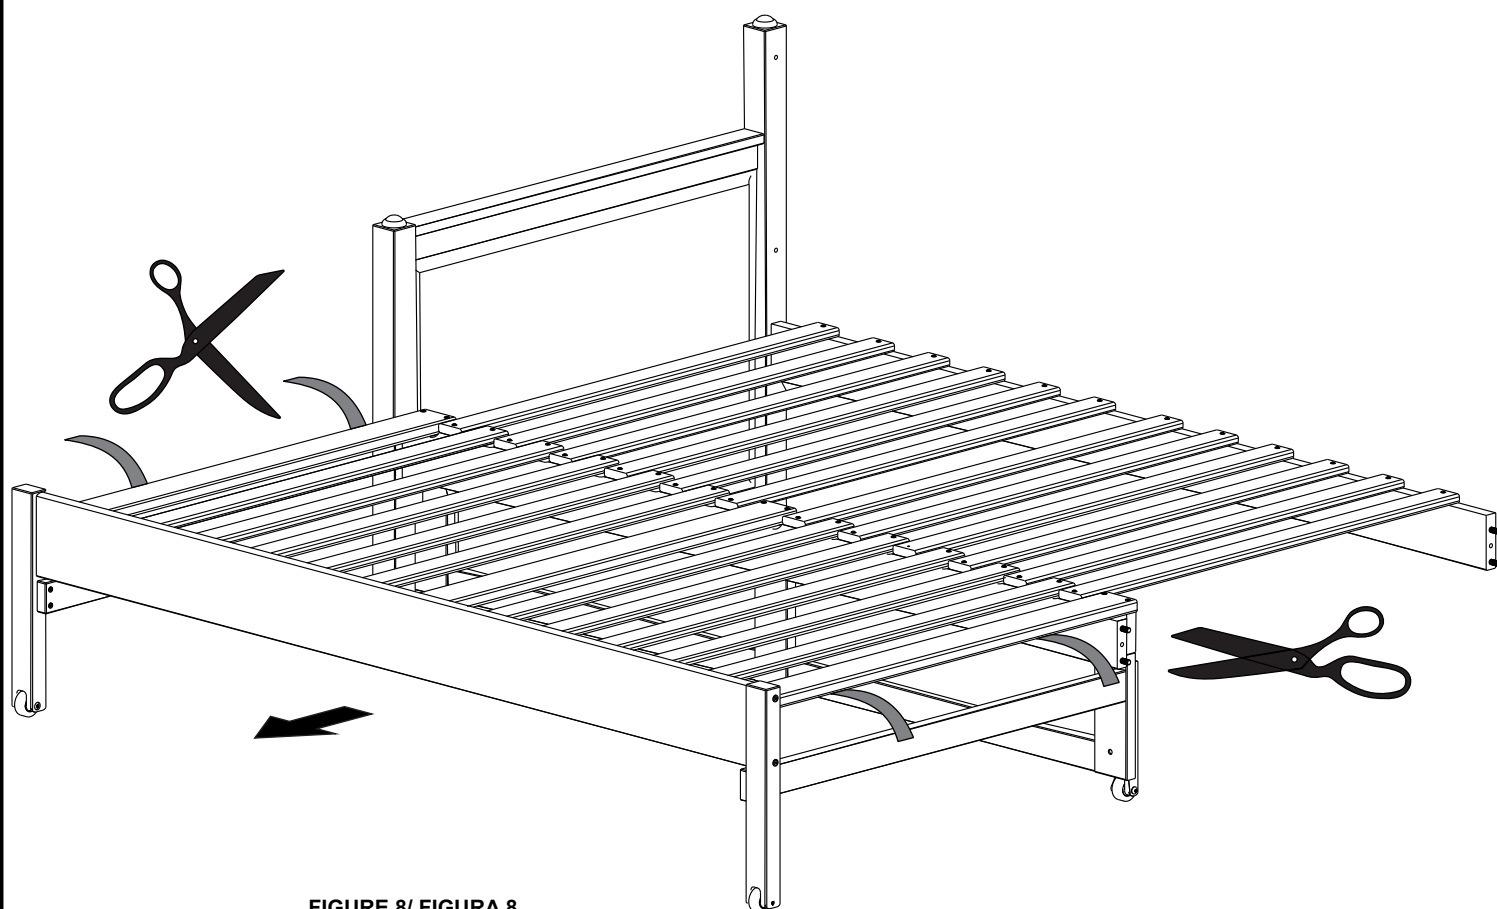

FIGURE 8/ FIGURA 8
8.1 - PROCEED BY CUTTING THE NYLON STRIPS TIED TO SLATS ON THE EXTENSIBLE BASE (A). USE A KNIFE OR A SCISOR WITH CAUTION AS SHOWN ON FIGURE 8.
8.1 - PROCÉDER EN COUPANT LES BANDES DE NYLON LIÉES AUX LAMELLES SUR LA BASE EXTENSIBLE (A). UTILISEZ UN COUTEAU OU UN CISEAU AVEC LA MISE EN GARDE FIGURANT À LA FIGURE 8.